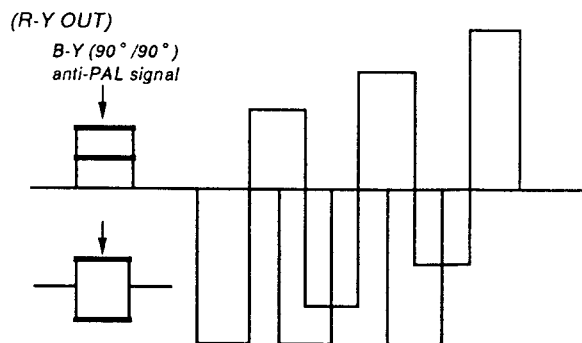

Fig. 16
- 4) Adjust **[B-Y PHASE PAL]** so that the B-Y anti-PAL signal waveform is 0. (Fig. 16)